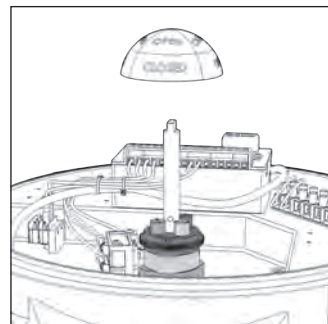

**Figure 6.** Two SPDT Travel Limit Switches
3. Loosen the cam locking screw shown in Figure 6.